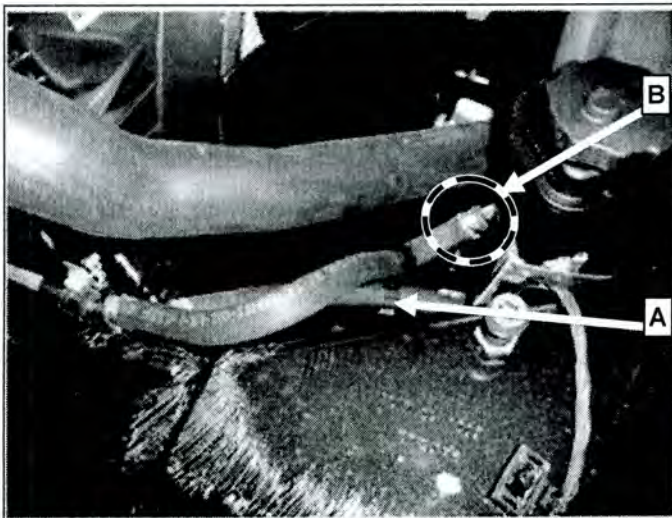

Figure 2
3.  Install spacer (A, Figure 2).
**Note:** The hose clamp (B) on the power steering fluid reservoir may need to be loosened and the steering line turned until the minimum distance is ensured (Figure 2). Be sure to lock hose clamp (B), replace clamp if necessary.